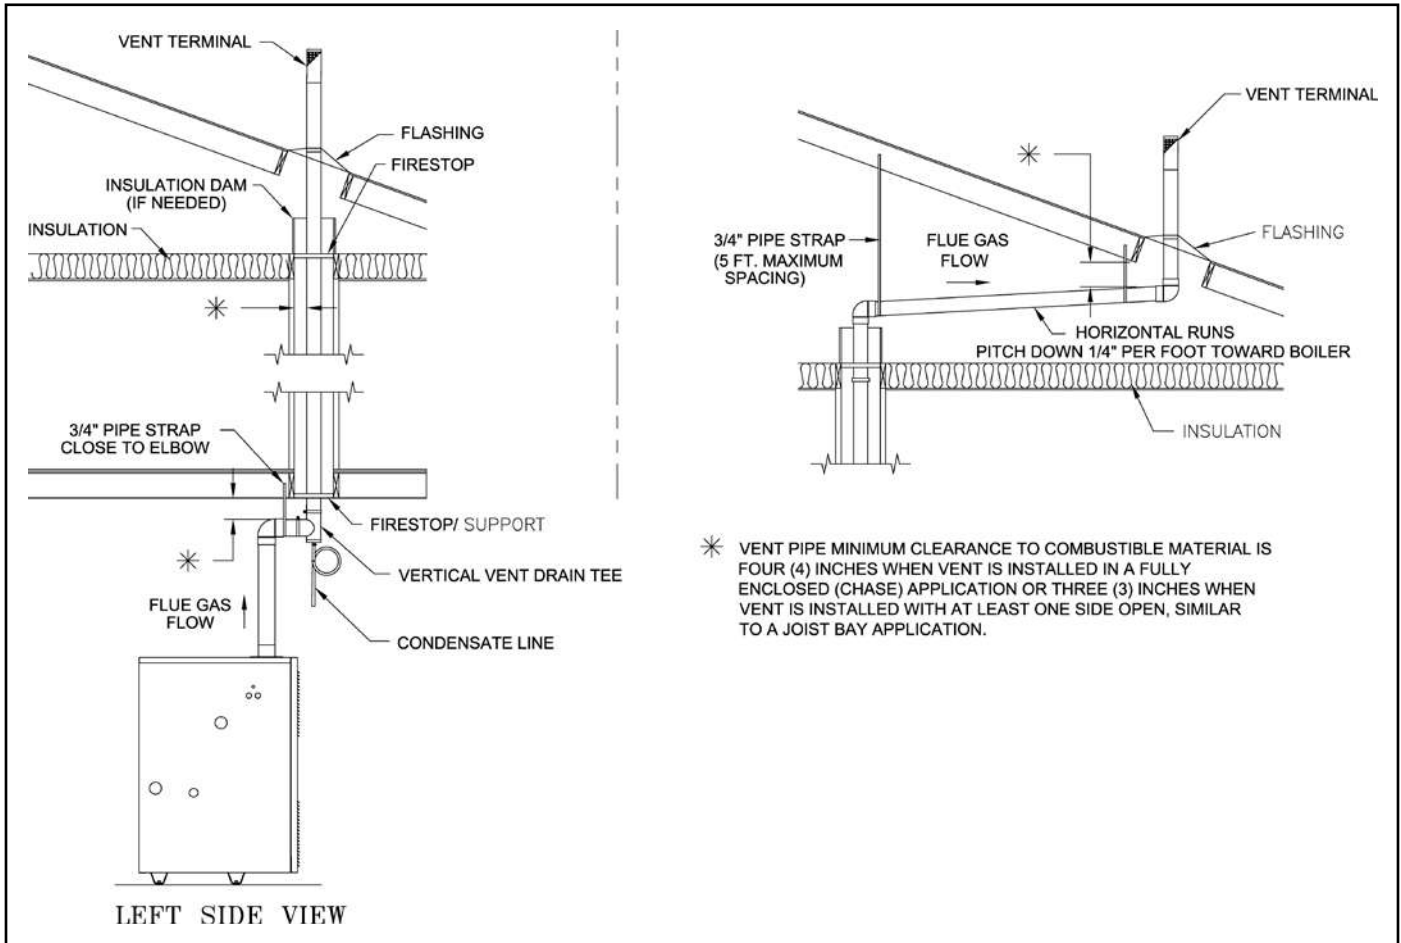

Figure B-6: Typical Vertical Stainless Steel Venting
1. Install vent and intake piping per Figures B-6 thru B-8.
* VENT PIPE MINIMUM CLEARANCE TO COMBUSTIBLE MATERIAL IS FOUR (4) INCHES WHEN VENT IS INSTALLED IN A FULLY ENCLOSED (CHASE) APPLICATION OR THREE (3) INCHES WHEN VENT IS INSTALLED WITH AT LEAST ONE SIDE OPEN, SIMILAR TO A JOIST BAY APPLICATION.